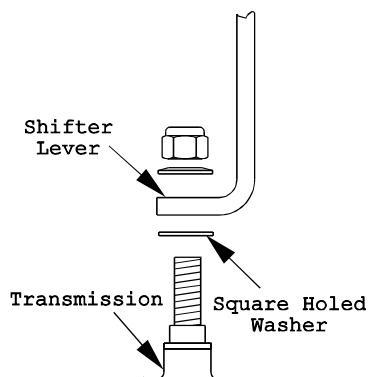

FIGURE 4
- Remove the 3/8" nyloc nut and spring disc washer from the stud on top of the transmission. Install the shifter lever through slot in shifter lever plate and onto the stud on top of transmission. Be sure the square-hole washer remains between the lever and transmission. Replace the spring disc washer and nyloc nut (see figure 4). Torque the 3/8" nut to 35ft-lbs. (47N.M).